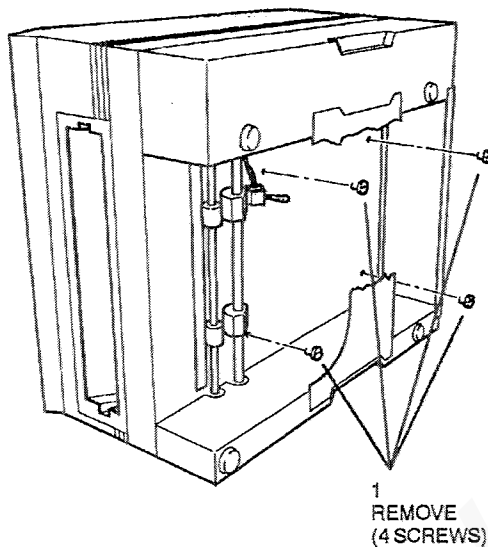

Figure 1. Tray 2 securing screws removal
7. (Figure 1) Remove the four tray 2 securing screws.